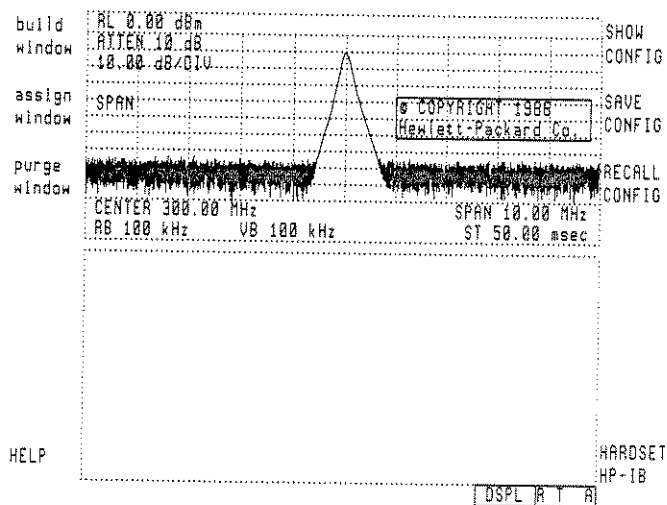

Fig. 23
6. Press **EXECUTE**, and the display should shift to the other window as in Figure 23.